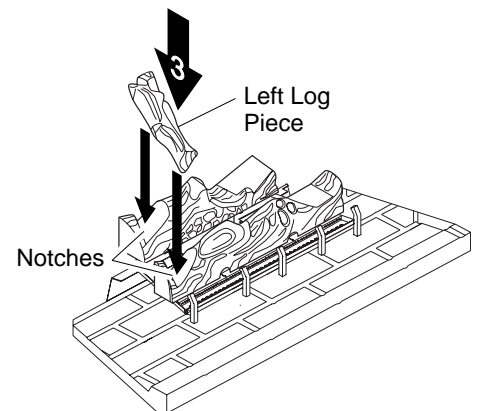

Figure 22 - Installing Left Log Piece
3. Place the straight, left log piece into the notches on the left side of the front and rear logs (see Figure 22).